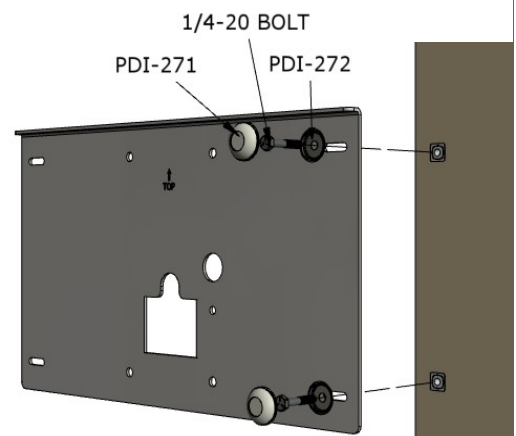

Fig. 5
4. Align mounting holes in backing plate with holes in toggle and install mounting hardware as shown. Fig. 5